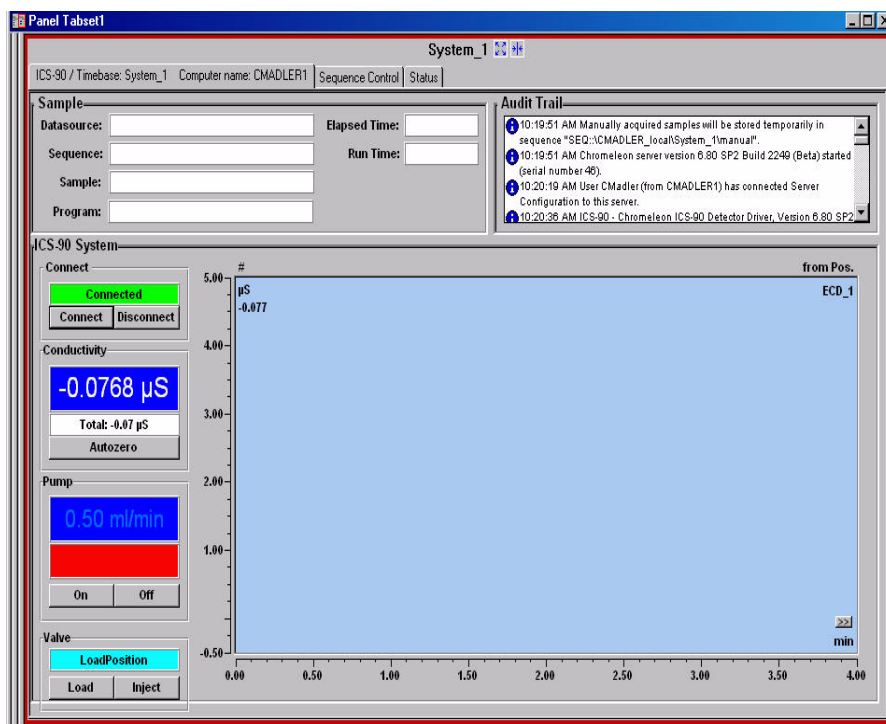

Figure 3-2. ICS-90 Control Panel
- c. To display the ICS-90 (or ICS-90A) Control panel, select the **ICS-90** tab on the panel tabset (see Figure 3-2). (The ICS-90A Control panel includes a **Wellness Panel** button; otherwise, the panels are identical.)
1. Turn on the pump by clicking the **On** button on the ICS-90 (or ICS-90A) Control panel in Chromeleon or Chromeleon Xpress (see Figure 3-2).
3. Allow the system to equilibrate for 30 minutes. During equilibration, the Control panel displays the background conductivity (the conductivity of the eluent before sample injection). Offset the background and zero the reading by clicking the **Autozero** button on the Control panel (see Figure 3-2).
- For manual sample processing (see Section 3.5.4), click the **Inject** button on the ICS-90 (or ICS-90A) Control panel (see Figure 3-2).
(see Figure 3-2) in Chromeleon or Chromeleon Xpress to start the injection.